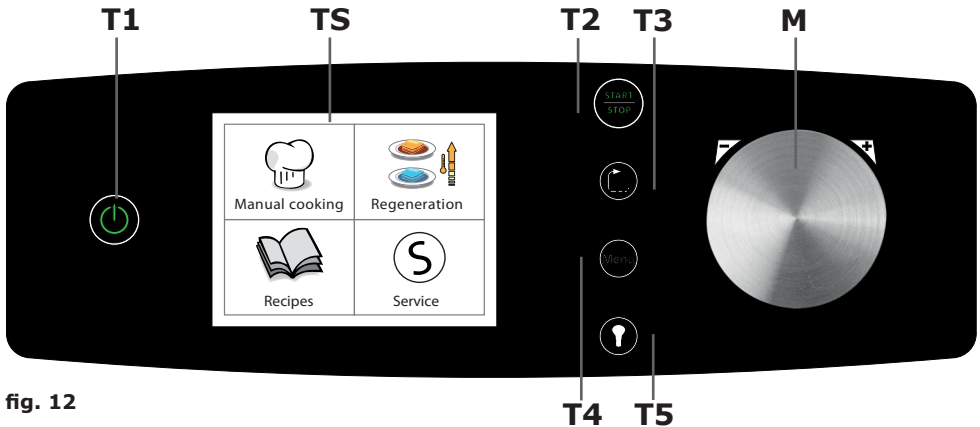

fig. 12
Turn on the oven using the master switch **T1 (fig. 12-pag. 16)**.
Set a cooking cycle with temperature to 150 ° C, time set to 10 min. and humidity to 25%. Press the key T2 (**fig. 12**) "Start/Stop".
- By pressing the power button T5 (**fig. 12**), the lights in the cooking chamber light up and after 45 seconds, if not turned off before pressing the button again, will turn off automatically.
The control panel of the oven is equipped with a single dial **M** (**fig. 12**) to insert or modify the operating parameters of the appliance. This knob can also be pressed to select a function or confirm a certain parameter. The dial acts upon a digital encoder and, therefore, it has a continuous rotation (there is no limit switch). The parameters set via the encoder vary: clockwise (increase) or counterclockwise (decrease).